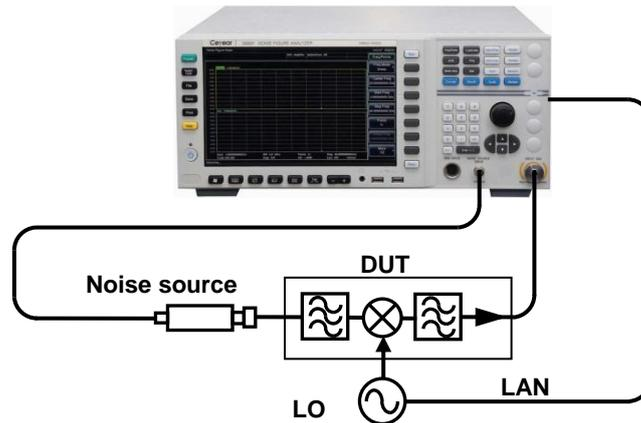

Fig.4.8 Measurement Connection of Upconverter and Downconverter Measurement Mode
Step 3. After the calibration is completed, insert the DUT between the noise source output and the input port (50Ω) of the noise figure analyzer for measurement. The measurement connection of the converter test mode is shown in Fig. 4.8.